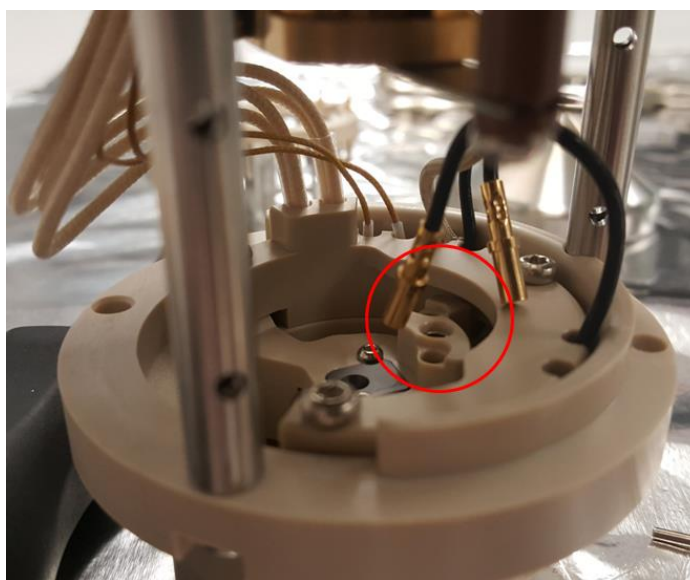

Figure 118: Removing the Jumper Wires
- 15) Very carefully unplug the two jumper wires that connect to the skimmer and tube lens. See Figure 118: Removing the Jumper Wires.